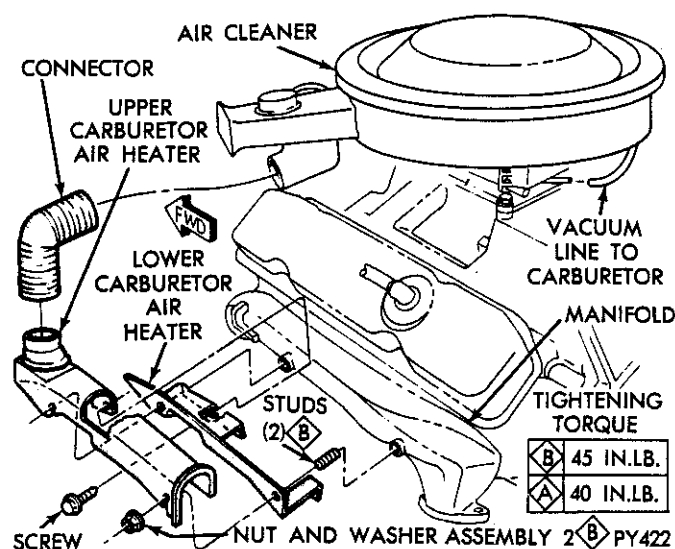

Fig. 8—Carburetor Air Heater 383, 440 Cubic Inch Engine
- (1) Disconnect flexible connector between air cleaner and carburetor air heater.
- (2) Refer to Figure 8, remove attaching screws, nut and washer assemblies and remove carburetor air heater.
- (3) Inspect air heater; replace if damaged.
- (1) Refer to Figure 8, install carburetor air heater with attaching screws, bolts, nut and washer assemblies. Torque to specifications.
- (2) Install flexible connector between air cleaner and carburetor air heater.